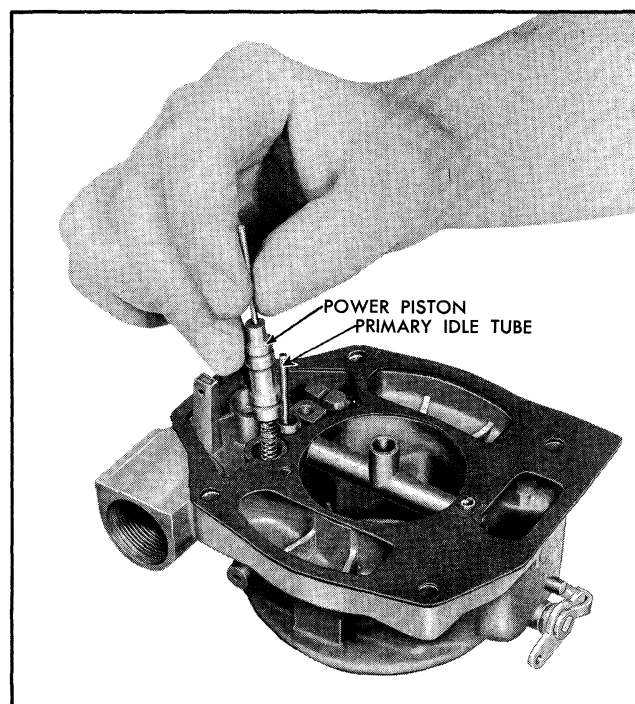

Fig. 6B-22 Removing Power Piston
8. Remove power piston and power piston spring from air horn (Fig. 6B-22).